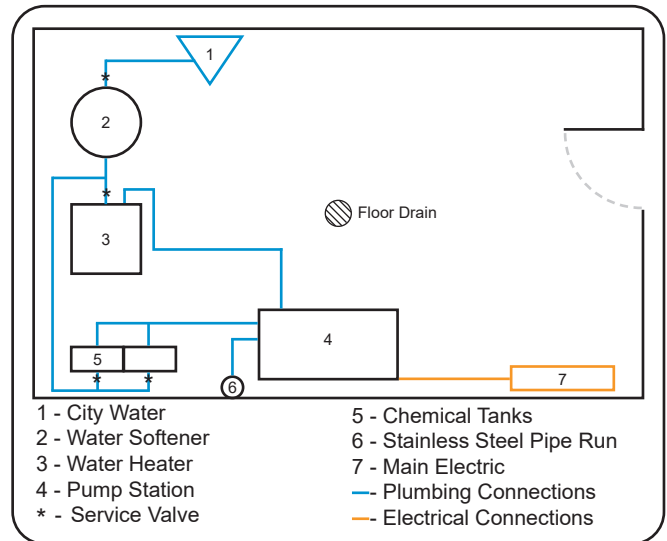

figure 1
1. Select a location for your Kennel Wash Pump Station. Locate near water and electrical sources, and floor drain. Surface must be level. Use **(Fig. 1)** as an example of a typical pump room layout.
3. Hard plumb line from city water source to (recommended) water softener system inlet, and then from the water softener outlet to the (optional) water heater. It is recommended to hard plumb a separate service valve for each component. **(Fig. 1)**